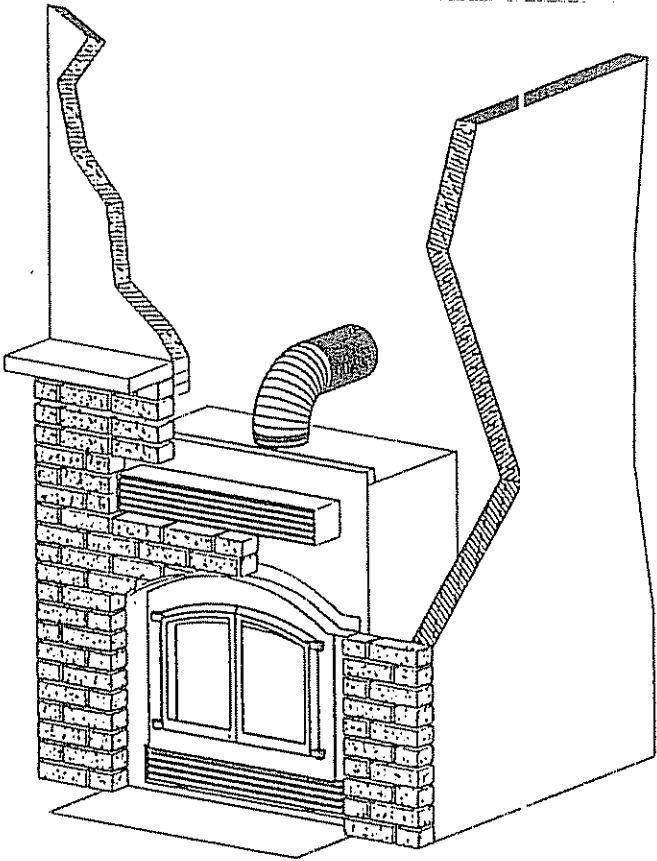

Figure 12
4. At approximately 10 brick courses high (depending on the brick size) lay the optional arched lintel iron on the brick (do not tie to the fireplace). See figure 12.